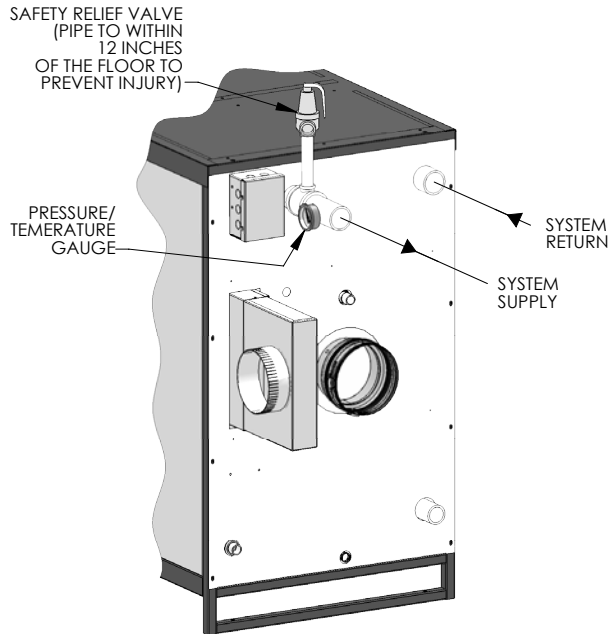

Figure 4.2: Relief Valve and Pressure/Temperature Gauge Installation
- Pressure/Temperature Gauge:** A combination pressure/temperature gauge is provided with each PUREFIRE® boiler to be mounted in the piping from the boiler supply to the system as shown in Figure 4.2. Most local codes require this gauge.
The valve is to be installed on the boiler supply pipe as shown in Figure 4.2. Pipe the discharge of the relief valve to within 12" of the floor and close to a floor drain.